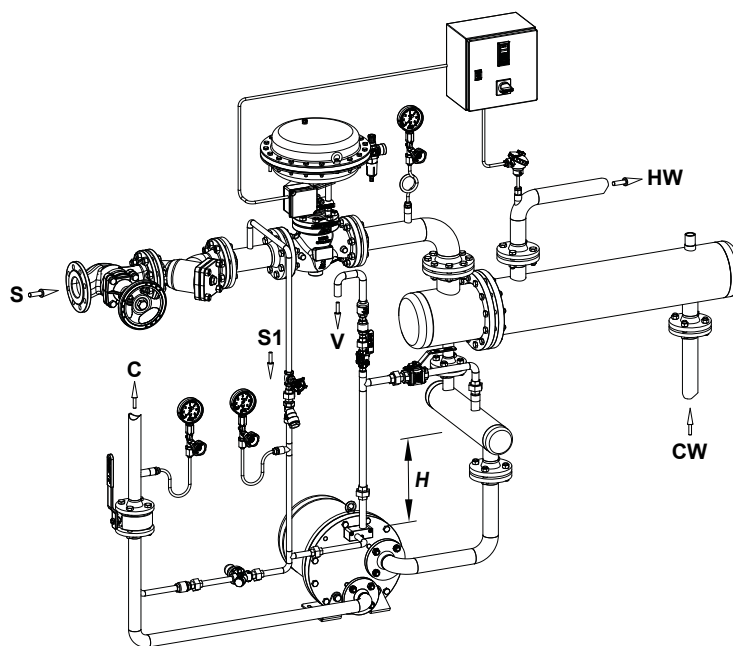

Fig. 2
- A filling head (H) of 300 mm is recommended. This measurement is taken from from the bottom of the receiver to the steam and vent connection block at the pump cover. A lower filling head will decrease the pumping capacity (minimum recommended is 150 mm). Maximum of 900 mm.
- A typical installation example is shown in Figure 2.